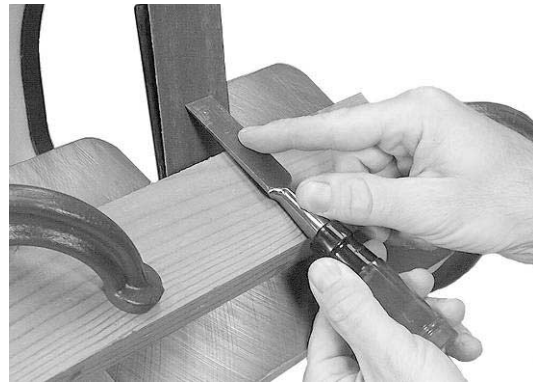

Figure 18
- Sharpening a wood chisel on the sanding belt using a block of wood. Use the block of wood to support the chisel and provide clearance for the chisel handle. See Figure 18. Sand a bevel in the block of wood in order to position the block as close as possible to the sanding belt and clamp the block to the table.